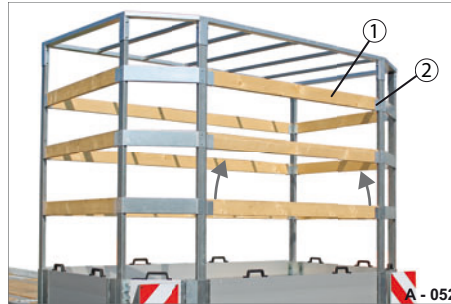

Fig. 44 Inserting/removing push-in slats
- ▶ Pull the corresponding push-in slats (Fig. 44/1) out of the pockets (Fig. 44/2).